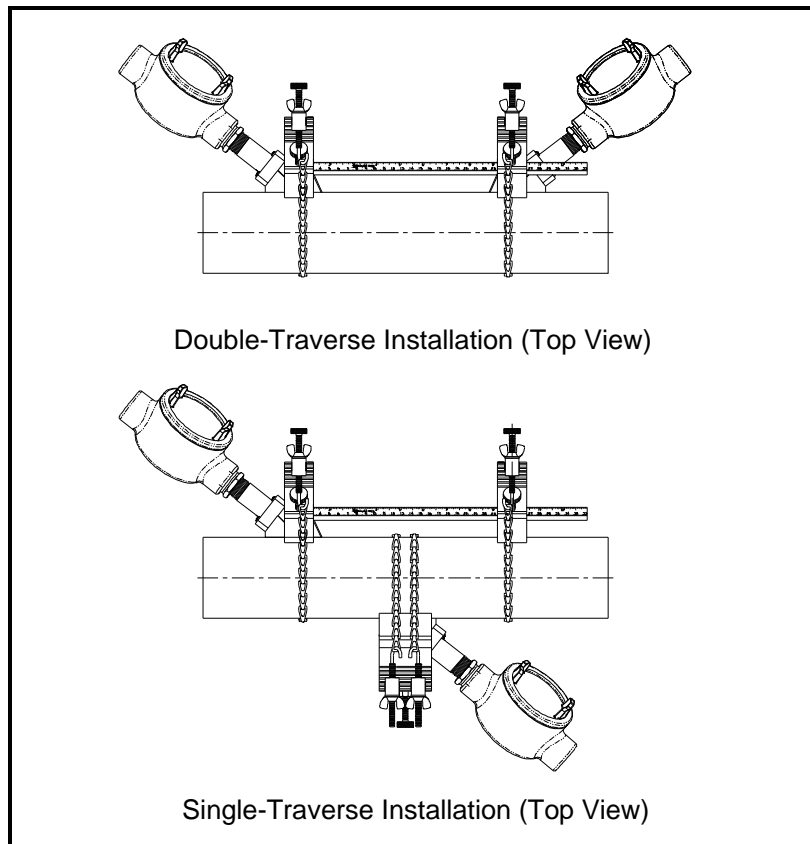

Figure 6: Completed UCF Installations with Transducers
8. Tighten the thumbscrews on the short blocks to make sure the block is secure on the rail. See Figure 6 on page 18 for completed UCF installations.
Note: If you have mounted the transducers into the UCF properly, the two transducer cable connectors will face away from each other as shown in Figure 6.